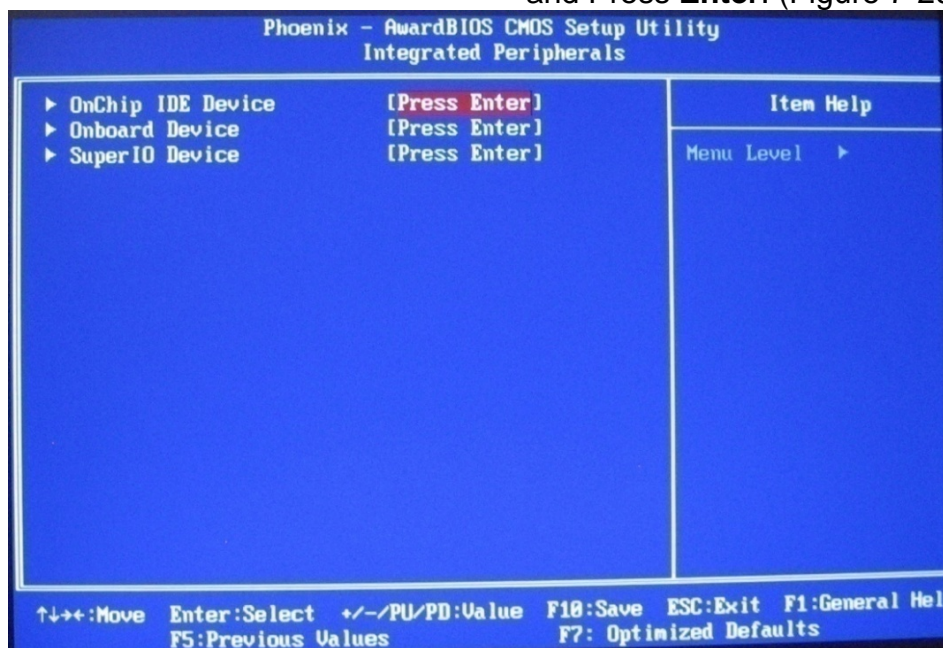

Figure 7-26 Onboard Device
16. On the Integrated Peripherals screen scroll down and Select **Onboard Device** and Press **Enter**. (Figure 7-26).